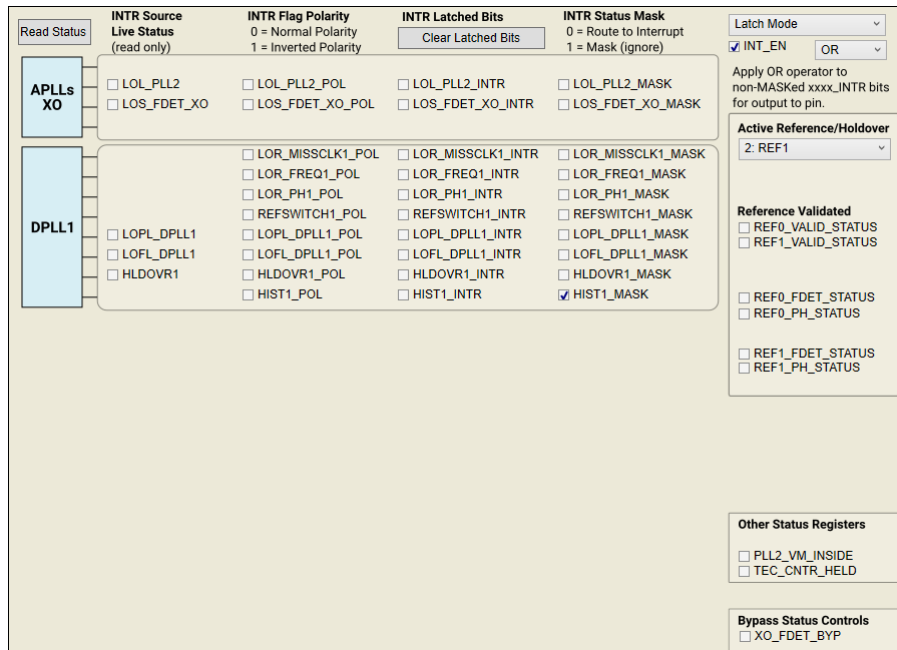

Figure 3-2. Read Status Bits
4. Check LMK5B12212 Status as shown in Figure 3-2.